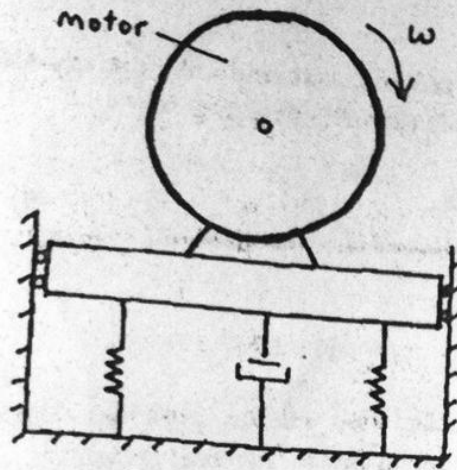

Fig. 3
- 12 (a) (i) The 30 kg electric motor shown in Fig. 3 is supported by 4 springs, each having a spring constant of 200 N/m. The rotor R is unbalanced and the effect of unbalance is equivalent to a 4 kg mass located 4 mm from the axis of rotation. The damping factor of the system is 0.15. Determine the amplitude of vibration when the rotor is rotating at  $\omega = 10$  rad/s. (10)